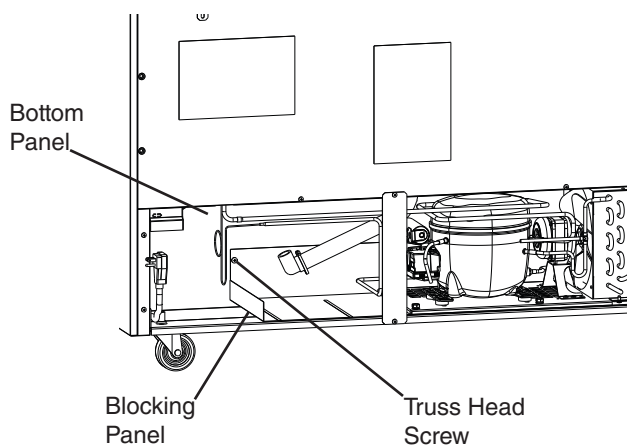
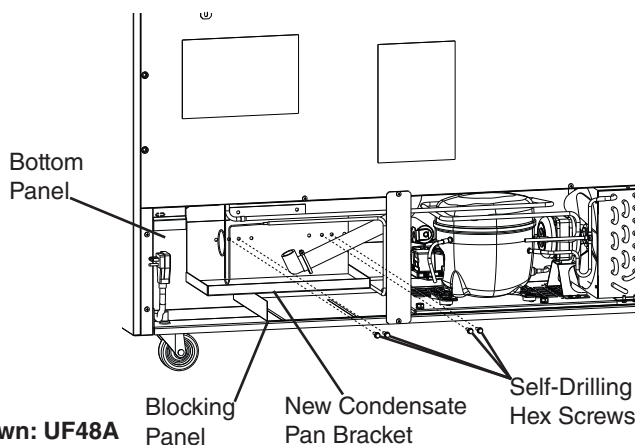

Fig. 8
Fig. 9
6) Remove the truss head screw securing the blocking panel to the bottom panel. See Fig. 8. Next, place and level the condensate pan bracket on the blocking panel, then using the self-drilling hex screws provided in this kit, secure the condensate pan bracket provided in this kit to the bottom panel as shown in Fig. 9. Note: Verify that the condensate pan bracket is level. (Adjust as necessary).